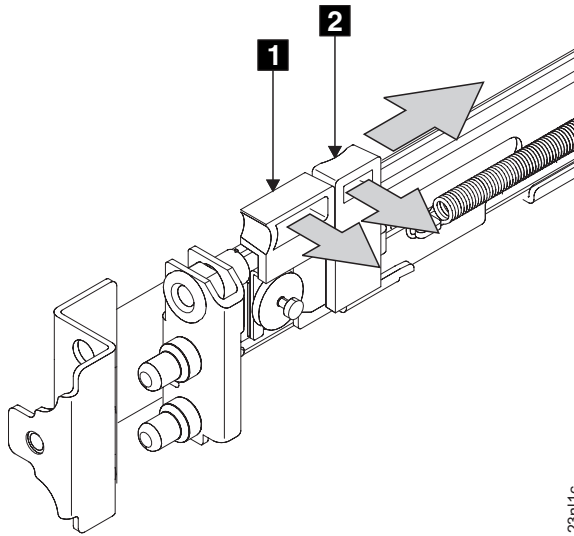

Figure 40. Opening the front latch-lock carrier assembly
3. Gently push the latch lock **2** away from the rail as you move the latch lever **1** toward the far end of the rail (Figure 40). The latch-lock carrier assembly slides against the spring tension.